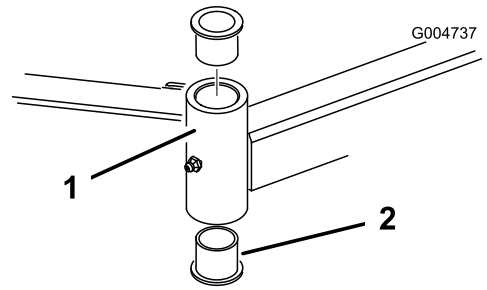

Figure 105
4. Insert a pin punch into the top or bottom of the mounting tube and drive the bushing out of the tube (Figure 105). Also drive the other bushing out of the tube. Clean the inside of the tubes to remove dirt.